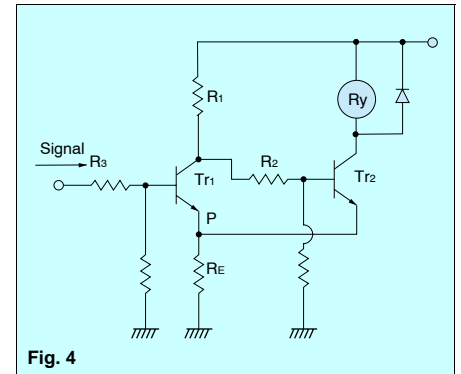

Fig. 4
3. When there is chattering in the input signal because of waveform oscillation, an RC time constant circuit should be inserted in the stage before the Schmitt trigger circuit. (However, the response speed drops.) (Fig. 4)